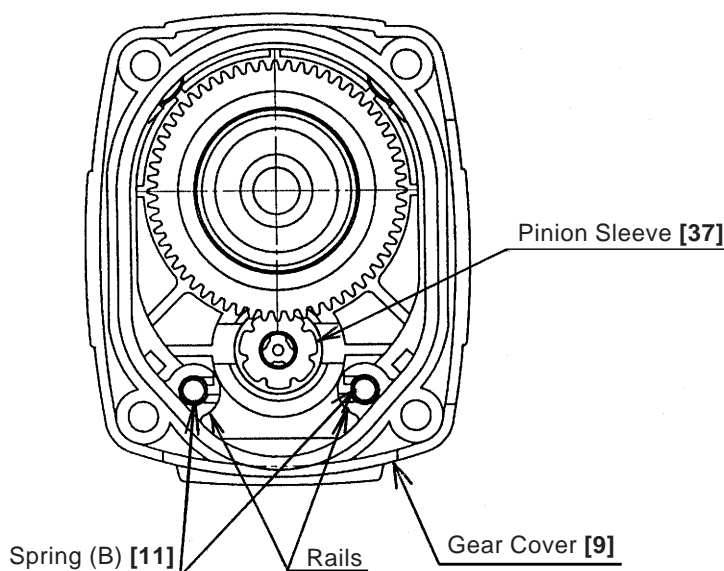

Fig. 1
(1) Disassembly of the Striking Mechanism Section
- Remove Springs (B) **[11]** from the rails in the Gear Cover **[9]** as shown in Fig. 1.